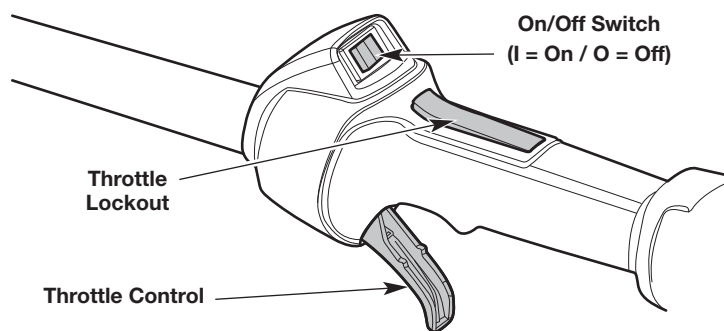

Fig. 11
NOTE: There is no need to turn the unit on. The On/Off switch is in the **On (I)** position at all times (Fig. 11).
3. Press and hold the throttle lockout (Fig. 11). Squeeze and hold the throttle control (Fig. 11).
2. Press and hold the On/Off switch in the **Off (O)** position until the engine comes to a complete stop (Fig. 11).